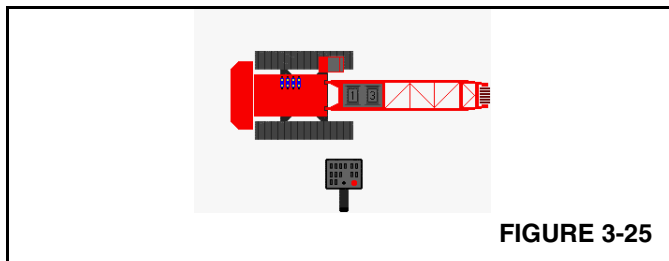

FIGURE 3-25
2. Scroll to and enter the setup screen (Figure 3-25).